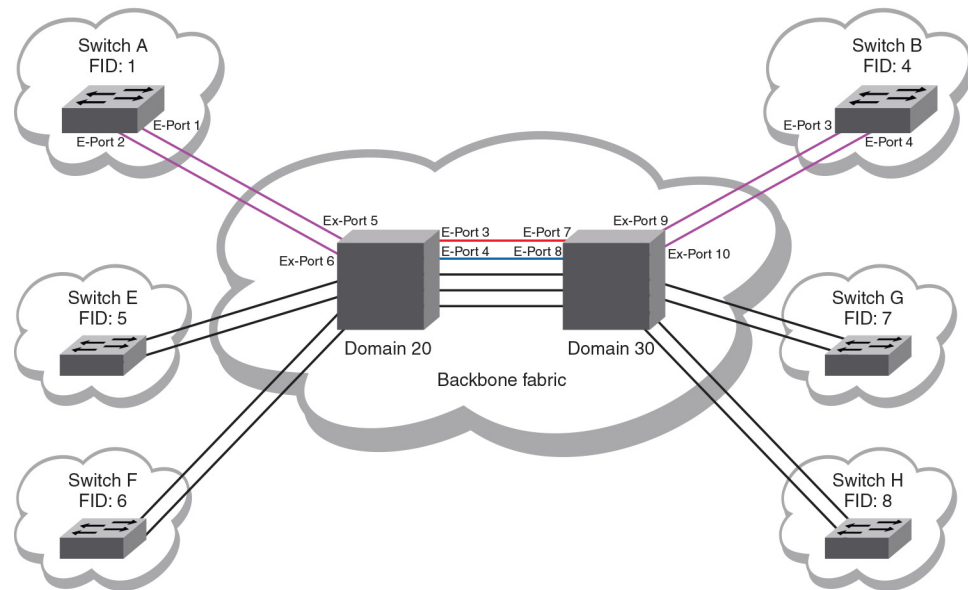

FIGURE 45 Fabric-level traffic isolation
If two edge fabrics are connected to two different backbone switches, then traffic between these fabrics can be isolated to a specified set of links within the backbone fabric using TI zoning in the backbone without including device PWWNs. This is called Fabric-Level Traffic Isolation, as shown in Figure 45.
- If one of the TI zone paths fails, then traffic on that path is re-routed to a non-dedicated path. For example, in Figure 45 on page 391, if the BLUE path fails, then traffic associated with the BLUE path is re-routed to a black path.
- If one of the paths in the TI zone fails, then traffic on that path is re-routed to another path in the TI zone. For example, in Figure 45 on page 391, if the BLUE path fails, then traffic associated with the BLUE path is re-routed to the RED path.
This example procedure creates two TI zones in the backbone fabric shown in Figure 45 on page 391.